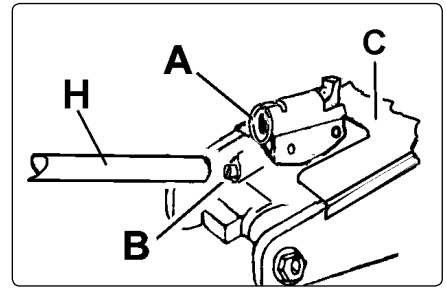
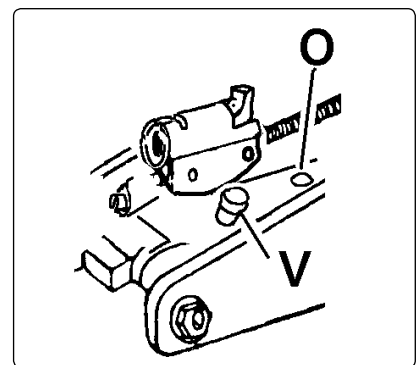

fig.1
fig.2
- 4.1.1. Before using jack for the first time, purge the hydraulic unit in order to eliminate any air in the system. Place handle (fig.1.H) onto the release valve (B) and open valve by turning the handle anti-clockwise, place handle back into the jacking point (A) and pump for 30 to 40 seconds. When complete, close the release valve by turning the valve (B) clockwise. When lifting a load of maximum capacity or close to it, it is recommended that the effort be reduced by the use of assistance during this operation.
- 5.6. To check the oil level, fully lower the jack. Remove front cover plate (fig.1.C) and filler plug (fig.2.O). The correct level is the bottom of the screw hole. If oil level is low, fill as required. Pump jack 5 or 6 times to expel air. Pump jack up to full height and pour off excess oil before refitting plug. **DO NOT touch the safety overload valve (fig.2.V),**